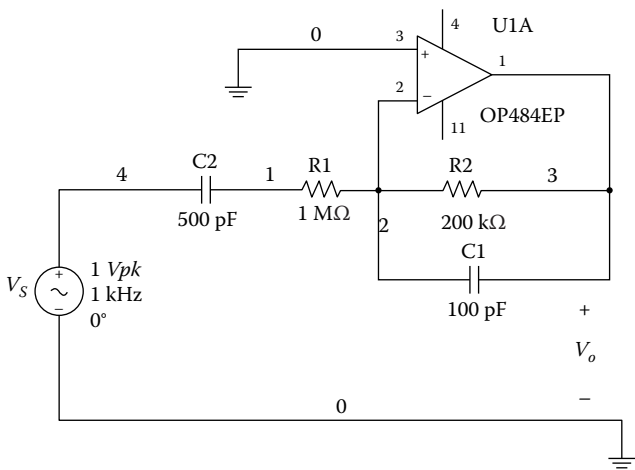

FIGURE P5.12
Problem 5.12 For Figure P5.12, build the circuit. Use the Analog Discovery board to measure: (1) The low cut-off frequency. (2) The high cut-off frequency, and (3) the maximum gain.